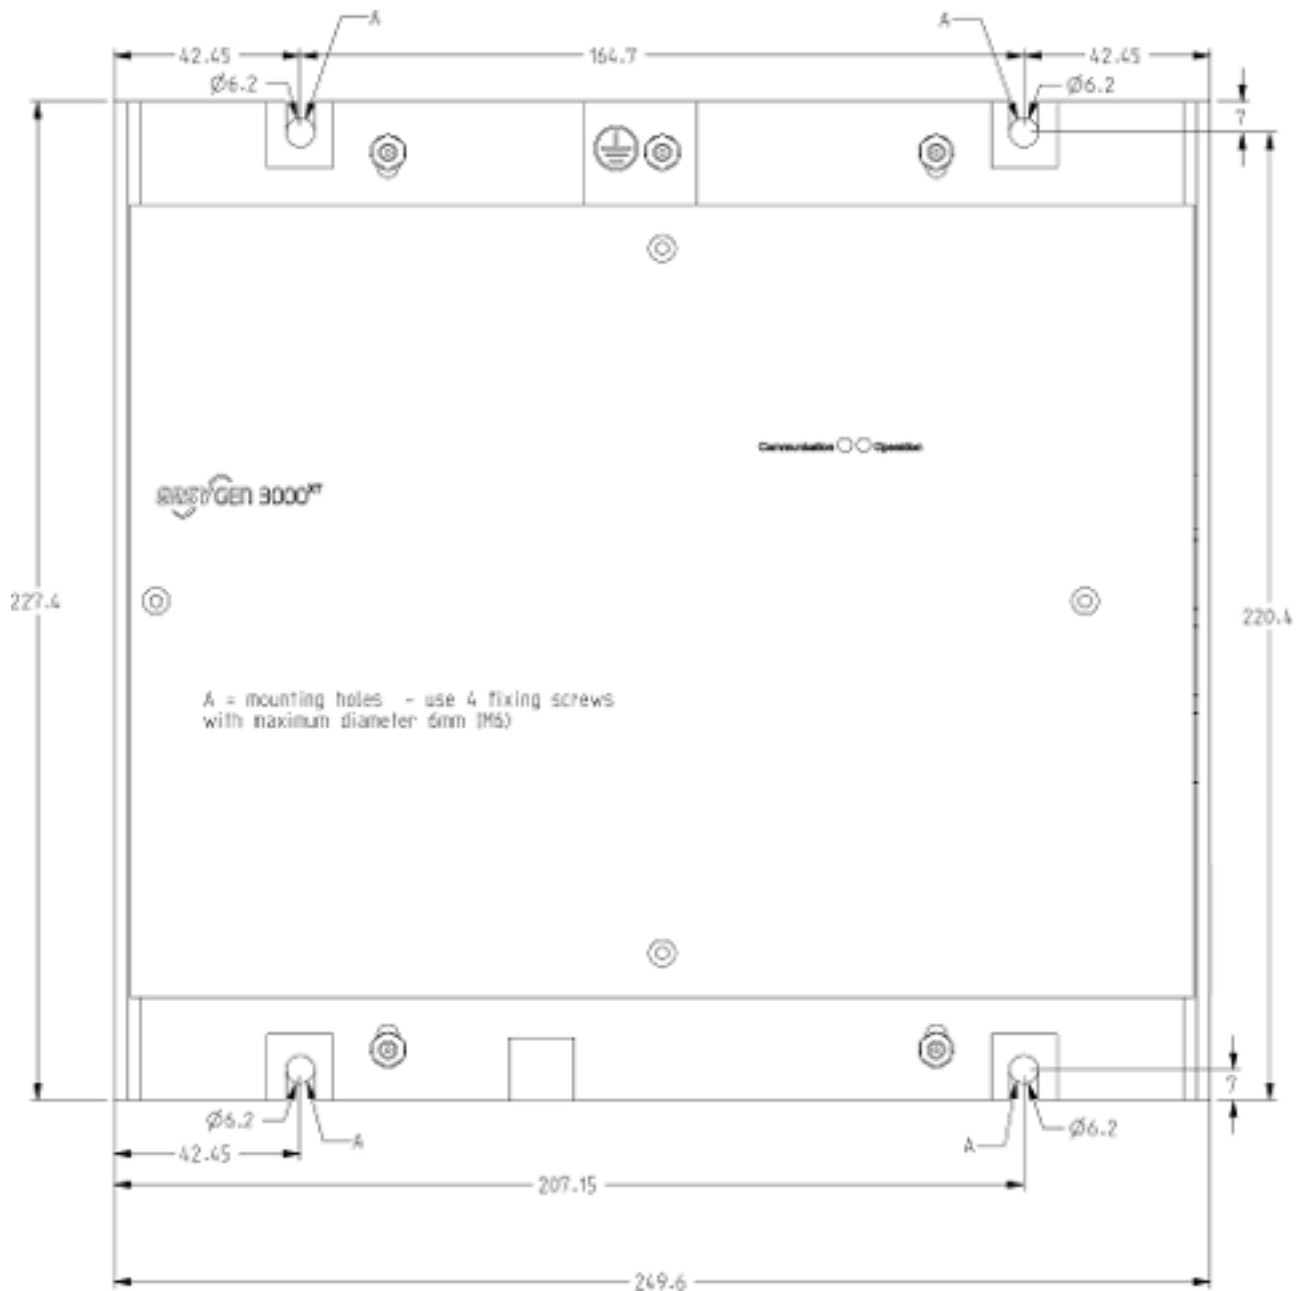

Fig. 6: Sheet metal housing - drill plan
1. Drill the holes according to the dimensions in Fig. 6 (dimensions shown in mm).